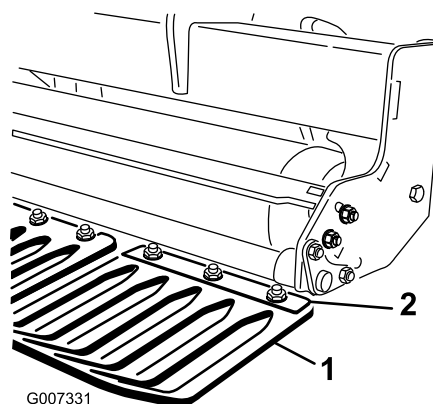

Figure 17
1. Loosen the nuts securing the turf guard clamps to the turf guard tool bar (Figure 17).